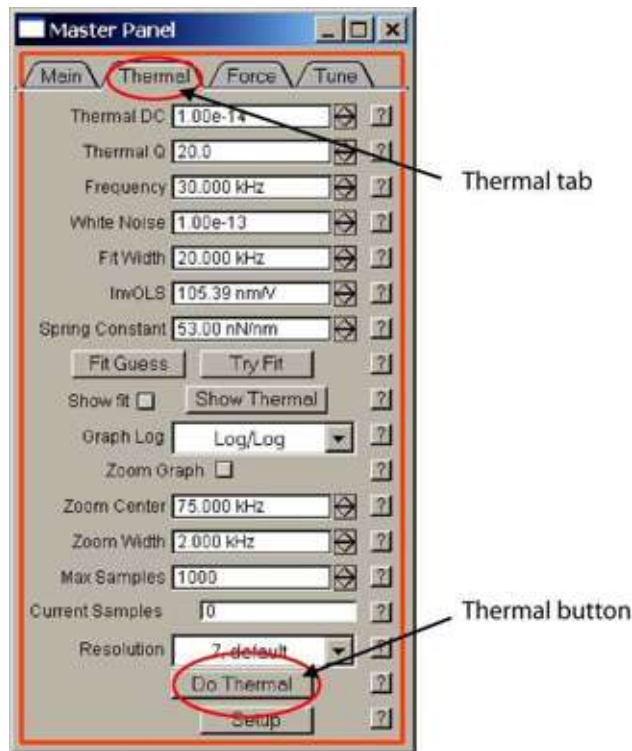

Figure 5.43 Master Panel, Thermal
1. In the Master Panel, click the 'Thermal' tab to bring it to the front of the window (See Figure 5.43).